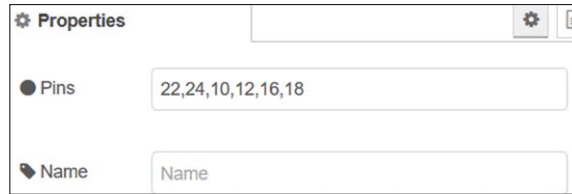

Figure 6.49 Configure node `rpi lcd`
- Create the **rpi lcd** node. Configure the node as shown in Figure 6.49.